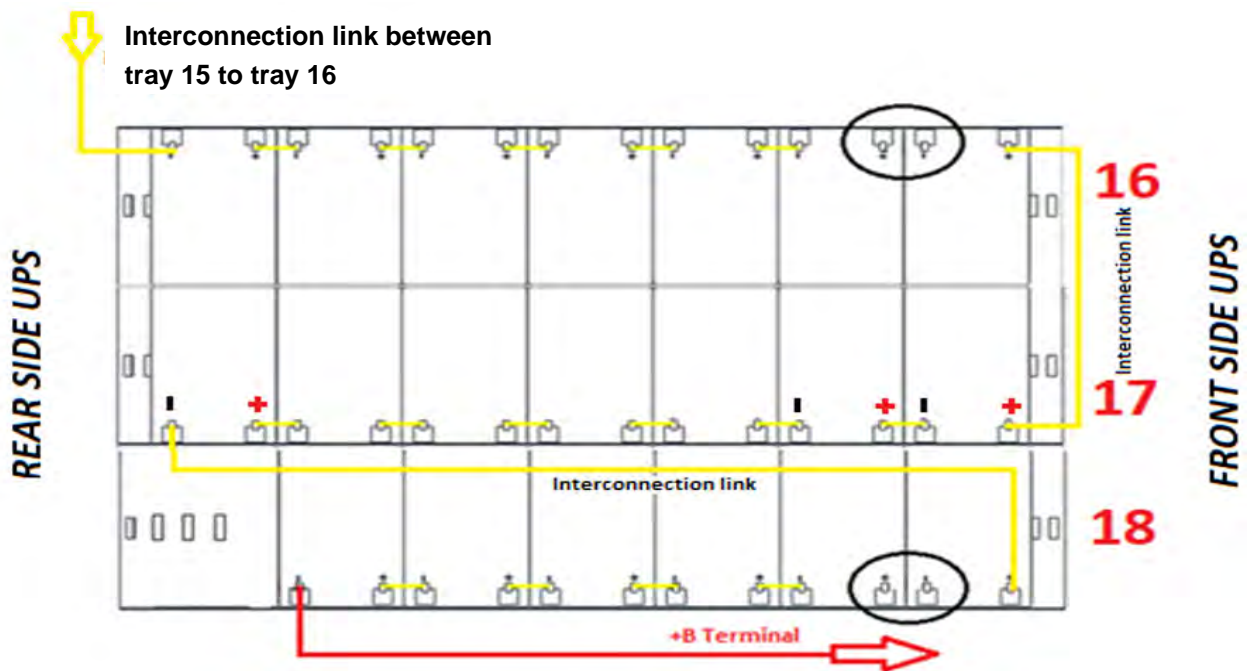

Figure 43 - View from above No.6 with battery connections
- 17) Insert tray no. 18 by removing the circled jumper and inserting the jumpers as demonstrated Figure 43.